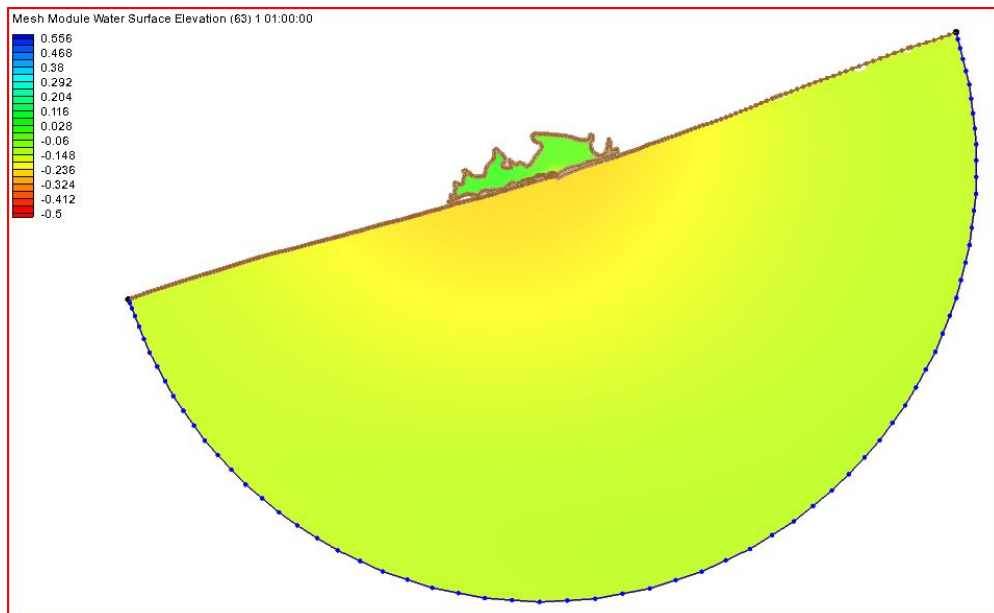

Figure 6 ADCIRC output from the “fort.63” file.
6. Click OK to exit the dialog box, and SMS will redraw the screen similar to Figure 6 (it will look about the same for the Time step 1 1:00:00).